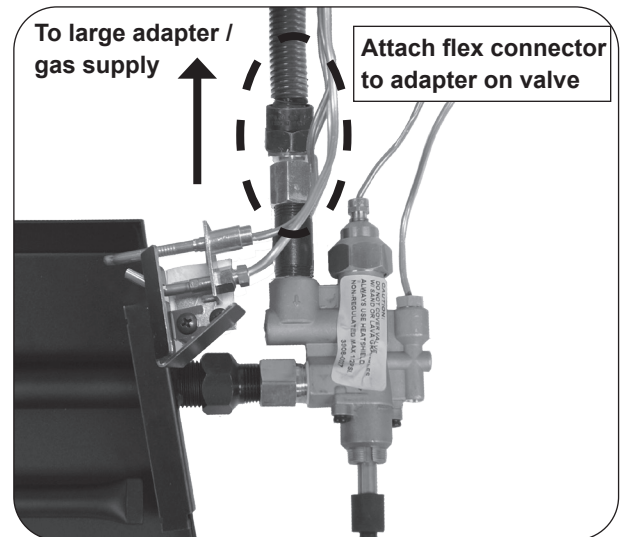

Fig. 7-1 Install flex connector to valve
3. Locate the burner flex connector kit. Discard the small adapter included with the kit. Then attach the open end of the connector to the small adapter found on the control valve. Tighten securely. See Fig. 7-1.